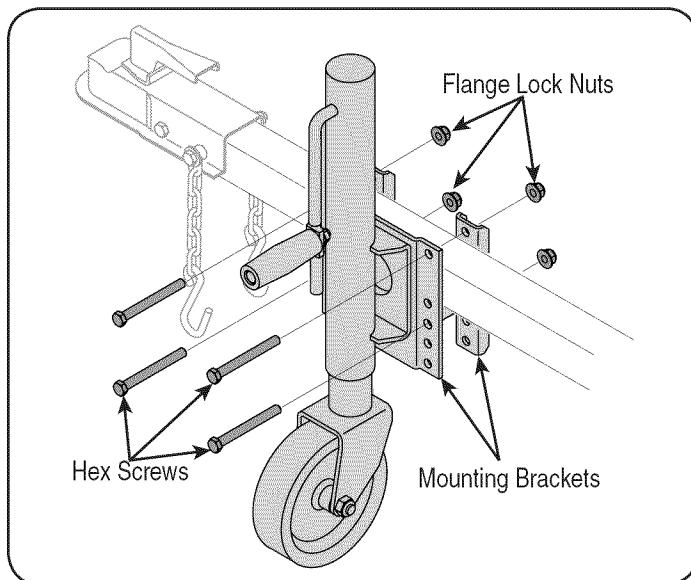

Figure 1
8. Place the adjustable jack stand halfway between the beam support/latch bracket and end of the tongue. See Figure 1.